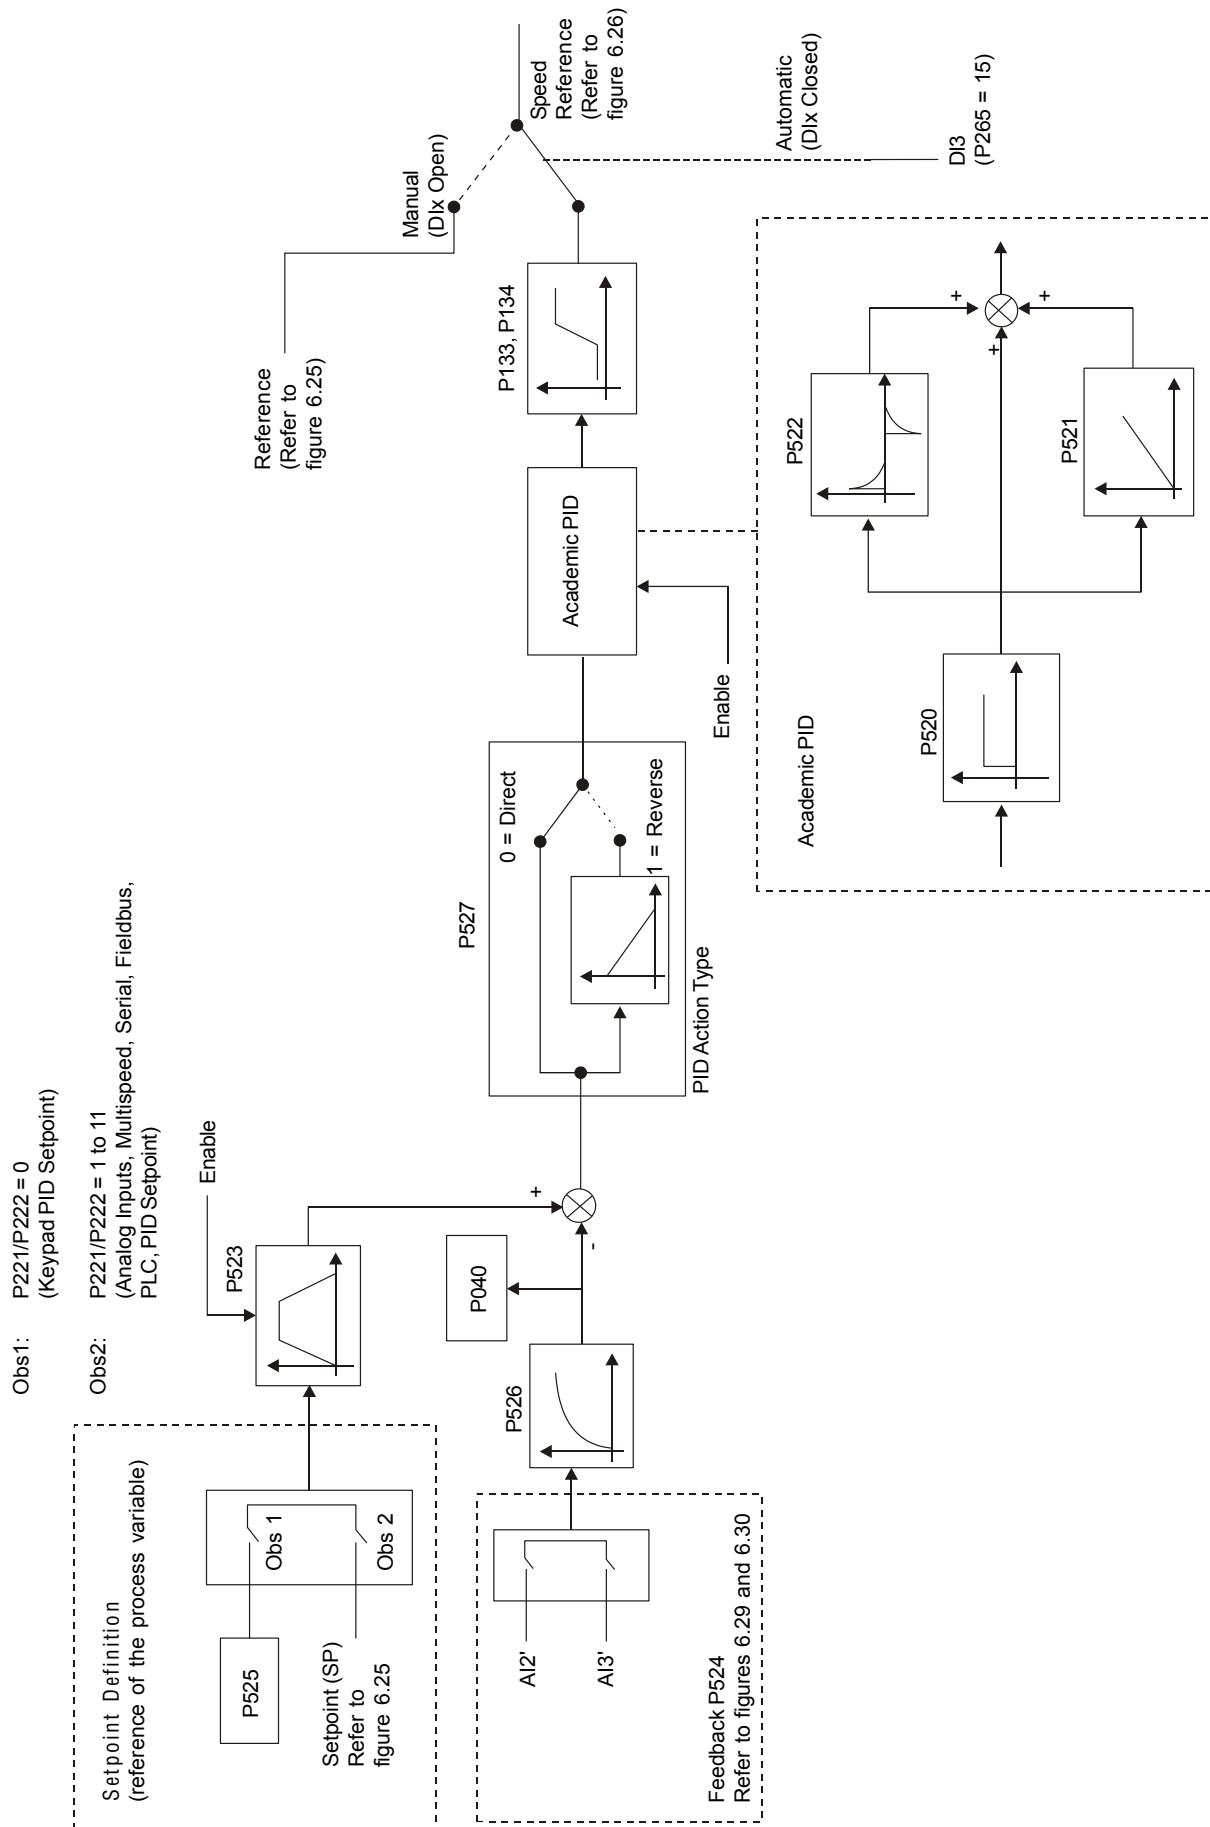

Figure 6.47 - Block diagram of the PID regulator function
- Figure 6.47 shows the block diagram of the Academic PID regulator.